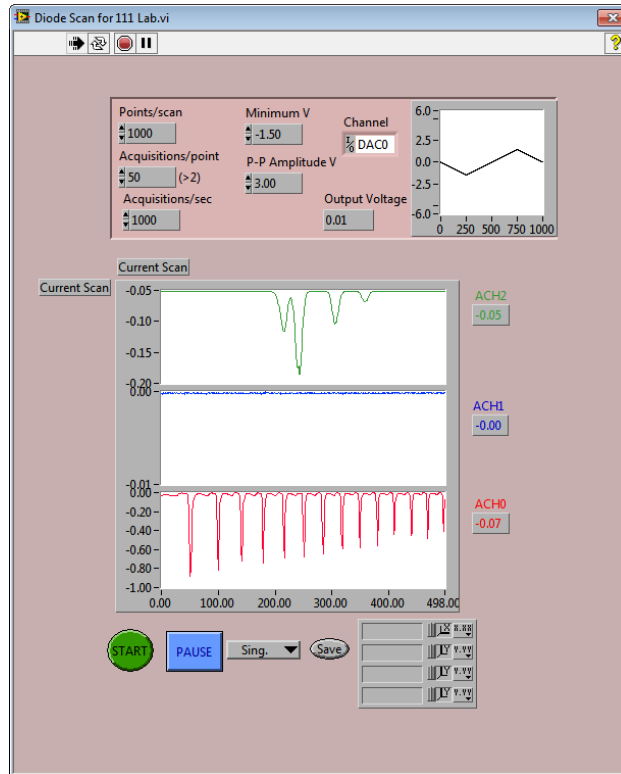

Figure 14: The Diode Scan of the transmission spectrum of the F-P analyzer AI 0(ACH0) and laser-induced fluorescence AI 2(ACH2)
- Adjust the scan parameters of the program until you obtain a well-centered spectrum that looks something like shown in Figure 14. (Try  $-1.5V$  minimum and  $3V$  p-p to get a well-centered spectrum). For best data, if the spectra begin with a stark drop-off or spike (can you explain why? You don't have to include this in your write up but think about how the diode scan works): click pause, right-click the graph and click "clear chart," and press resume. Ideally, the spectra lines will be flat from the start and the data taken will be smooth.